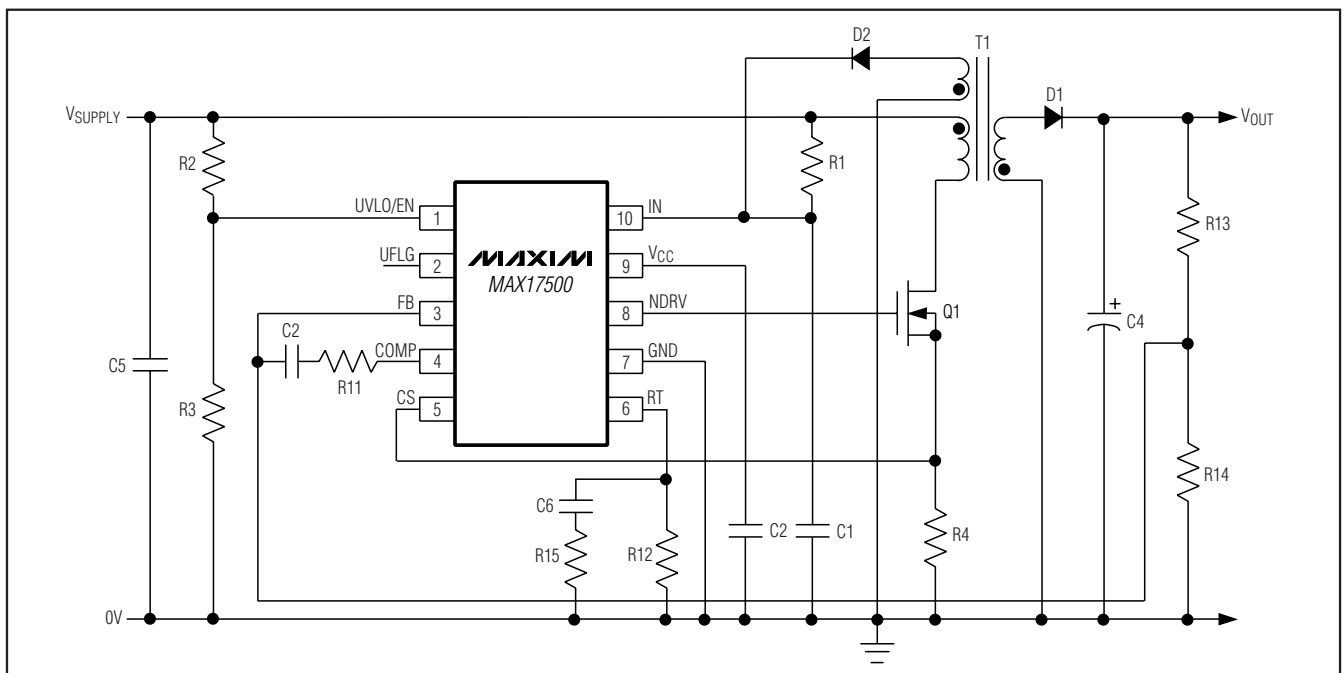

Figure 1. Nonisolated Power Supply with Programmable Input-Supply Start Voltage
- Note 2:** The MAX17500 is intended for use in universal input power supplies. The internal clamp circuit at IN is used to prevent the bootstrap capacitor (C1 in Figure 1) from charging to a voltage beyond the absolute maximum rating of the device when UVLO/EN is low (shutdown mode). Externally limit the maximum current to IN (hence to clamp) to 2mA maximum when UVLO/EN is low. Clamp currents higher than 2mA may result in a clamp voltage higher than 30V, thus exceeding the absolute maximum rating for IN. For the MAX17499, do not exceed the 24V maximum operating voltage of the device.
The MAX17500 is well suited for universal input (rectified 85V AC to 265V AC) or telecom (-36V DC to -72V DC) power supplies. The MAX17499 is well suited for low-input-voltage (9.5V DC to 24V DC) power supplies. The devices include an internal clamp at IN to prevent the input voltage from exceeding the absolute maximum rating (see Note 2 at the end of the *Electrical Characteristics* table). The input is clamped when the devices are started with a bleed resistor (R1 in Figure 1) from a high input voltage and the UVLO/EN input is low. The clamp can safely sink up to 2mA current.
Power supplies designed with the MAX17500 use a high-value startup resistor, R1, that charges a reservoir capacitor, C1 (see Figure 1). During this initial period, while the voltage is less than the internal bootstrap UVLO threshold, the device typically consumes only 50μA of quiescent current. This low startup current and the large bootstrap UVLO hysteresis help to minimize the power dissipation across R1 even at the high end of the universal AC input voltage (265V AC).
Use this UVLO/EN input to program the input-supply start voltage. For example, a reasonable start voltage for a 36V to 72V telecom range is usually 34V. Calculate the resistor-divider values, R2 and R3 (see Figure 1) by using the following formulas:
point, the internal regulator begins charging C2 (see Figure 1). Only 50 $\mu$ A of the current supplied through R1 is used by the MAX17500; the remaining input current charges C1 and C2. The charging of C2 stops when the  $V_{CC}$  voltage reaches approximately 9.5V, while the voltage across C1 continues rising until it reaches the wake-up level of 21.6V. Once  $V_{IN}$  exceeds the bootstrap UVLO threshold, NDRV begins switching the MOSFET and transfers energy to the secondary and tertiary outputs. If the voltage on the tertiary output builds to higher than 9.74V (the bootstrap UVLO lower threshold), then startup has been accomplished and sustained operation commences. If  $V_{IN}$  drops below 9.74V before startup is complete, the device goes back to low-current UVLO. In this case, increase the value of C1 to store enough energy to allow for the voltage at the tertiary winding to build up.
The MAX17499A/MAX17500A and MAX17499B/MAX17500B have programmable output switching frequencies from 25kHz to 625kHz and 12.5kHz to 625kHz, respectively. Use the following formulas to determine the appropriate value of resistor R12 (see Figure 1) needed to generate the desired output switching frequency ( $f_{sw}$ ) at the NDRV output:
where R12 is the resistor connected from RT to GND (see Figure 1).
Connect an RC network in parallel with R12 as shown in Figure 1. The RC network should consist of a 100nF capacitor, C6, (for stability) in series with resistor R15, which serves to further minimize jitter. Use the following formula to determine the value of R15:
The devices include an internal error amplifier to regulate the output voltage in the case of a nonisolated power supply (see Figure 1). For the circuit in Figure 1, calculate the output voltage using the following equation:
The current-sense resistor ( $R_4$  in Figure 1), connected between the source of the MOSFET and ground, sets the current limit. The current-limit comparator has a voltage trip level ( $V_{CS}$ ) of 1V. Use the following equation to calculate the value of  $R_4$ :
The bypass capacitor at  $I_N$ ,  $C_1$ , supplies current immediately after the MAX17500 wakes up (see Figure 1). The size of  $C_1$  and the connection configuration of the tertiary winding determine the number of cycles available for startup. Large values of  $C_1$  increase the start-up time but also supply gate charge for more cycles during initial startup. If the value of  $C_1$  is too small,  $V_{IN}$  drops below 9.74V because NDRV does not have enough time to switch and build up sufficient voltage across the tertiary output, which powers the device. The device goes back into UVLO and does not start. Use a low-leakage capacitor for  $C_1$  and  $C_2$ .
The above startup method is applicable to a circuit similar to the one shown in Figure 1. In this circuit, the tertiary winding has the same phase as the output windings. Thus, the voltage on the tertiary winding at any given time is proportional to the output voltage and goes through the same soft-start period as the output voltage. The minimum discharge time of C1 from 21.6V to 9.74V must be greater than the soft-start time of 5.6ms.